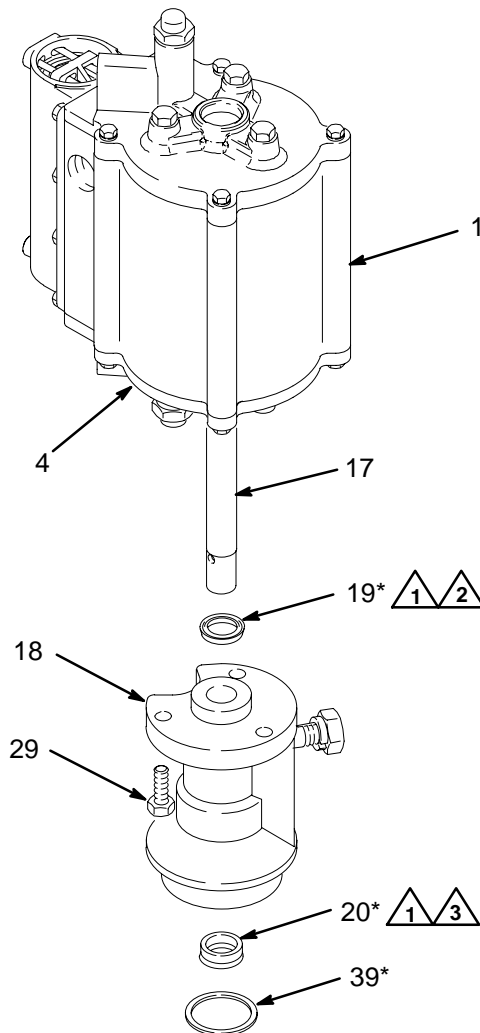

Fig. 10
1. Disconnect the air motor (1) from the displacement pump, as explained on page 15.
2. Remove the three screws (29) holding the outlet housing (18) to the bottom cylinder cap (4). Pull the housing off the cap, being careful not to damage the piston rod (17). See Fig. 10.
3. Remove the u-cup packing from the cap (4).
4. Remove the copper gasket (39) and the u-cup packing (20) from the outlet housing (18).
1. Lubricate the u-cup packing (19*) and install it in the bottom cylinder cap (4), with the lips facing up toward the air motor (1). See Fig. 10.
2. Grease and install the u-cup packing (20*) and the copper gasket (39*) in the outlet housing (18). The lips of the u-cup must be facing down, toward the pump.
3. Install the housing (18) on the cap (4).
4. Reconnect the air motor (1) to the displacement pump, as explained on page 15.
-  2 Lips face up, toward air motor (1).